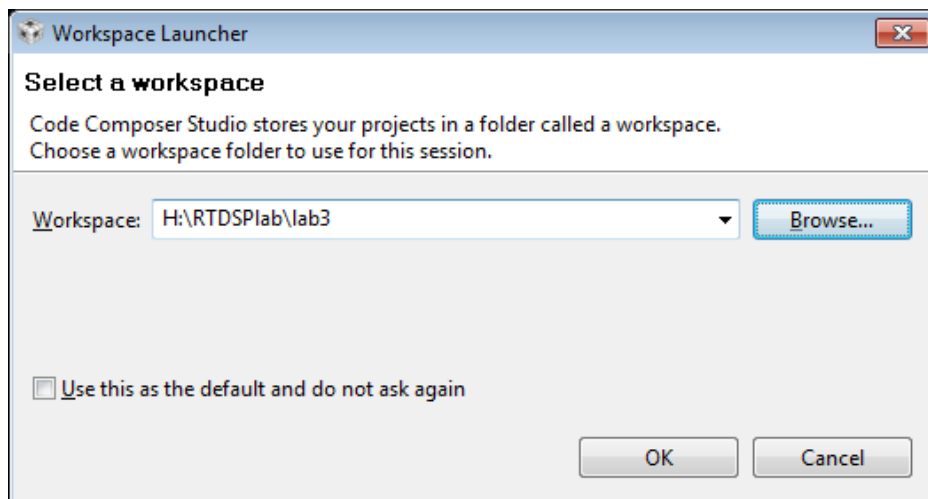

Figure 1: Selecting the lab3 project
- Start up CCS (if CCS is already open use **file→Switch Workspace** to the same effect). When asked to choose a workspace hit the browse button and select the **lab3** folder you just created. See figure 1.